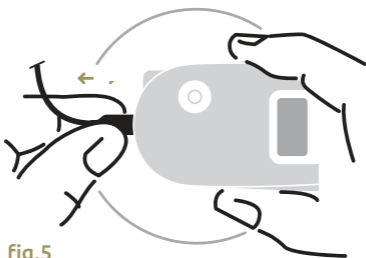

fig.5
- 2 Hold the driver in one hand and the actuator cable plug in the other hand, then pull them apart. (fig.5)